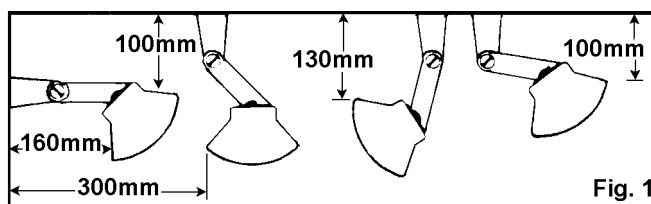

Fig. 1
- (a) It is important that Sun-Zone is not mounted close to a wall or ceiling. Minimum offset distances are shown in Fig 1.